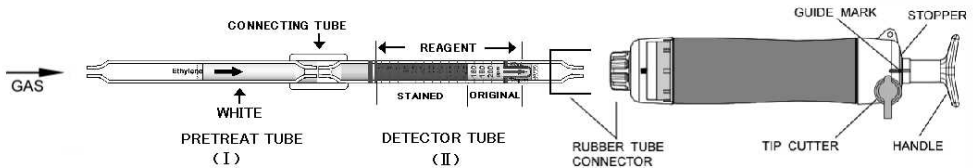

Fig.1
- ① Break both ends of the pretreat tube ( I ) and detector tube ( II ), and connect each end of the pretreat tube ( I ) and detector tube ( II ) with connecting tube as shown in Fig. 1.
- ② Insert the detector tube ( II ) into the aspirating pump securely as shown in Fig.1. (Arrow marks shall point to the pump.)
- ③ Align the guide marks on the shaft and stopper of the aspirating pump.
- ④ Pull the pump handle at a full stroke until it locks and wait for 3 minutes or until the completion of sampling is confirmed with the flow indicator of the pump (See descriptions about the flow indicator in the instruction manual of the pump).
- ⑤ Push back the handle without removing the detector tube from the rubber tube connector so that air in the pump will be discharged perfectly.
- ⑥ Then repeat the steps ③~⑤ three times more.
- ⑦ On completion of sampling, read the scale at the maximum point of the stained layer.
- ① Temperature; Correct the tube reading by following temperature correction table.